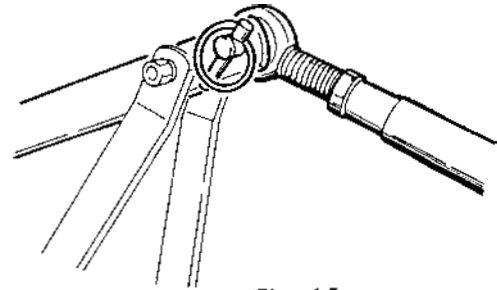

Fig. 15
- 3 Install the other end of the hitch top link to the tiller and secure with clip as shown in Fig. 15.
- 5 Adjust the hitch top link to make tiller parallel with the ground (front to rear). Increasing the length of the top link will cause the rear of the tiller to drop, shortening the link will cause the rear of the tiller to raise. Tighten the locking nut on the top link securely. Fig. 15